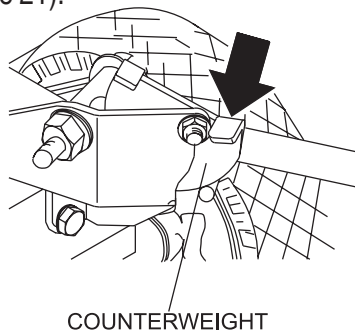
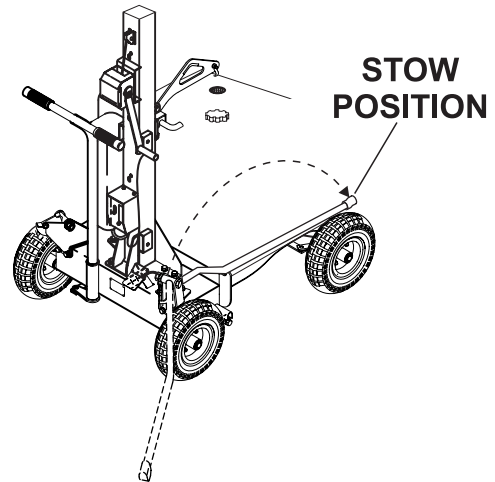

Figure 20. Outriggers (Released)
Figure 21. Outriggers (Stow Position)
7. To unlock outriggers, push downward on the counter-weight lever indicated by arrow (Figure 20). Grab hold of outrigger, pull upward, push down and place in stow position (Figure 21).